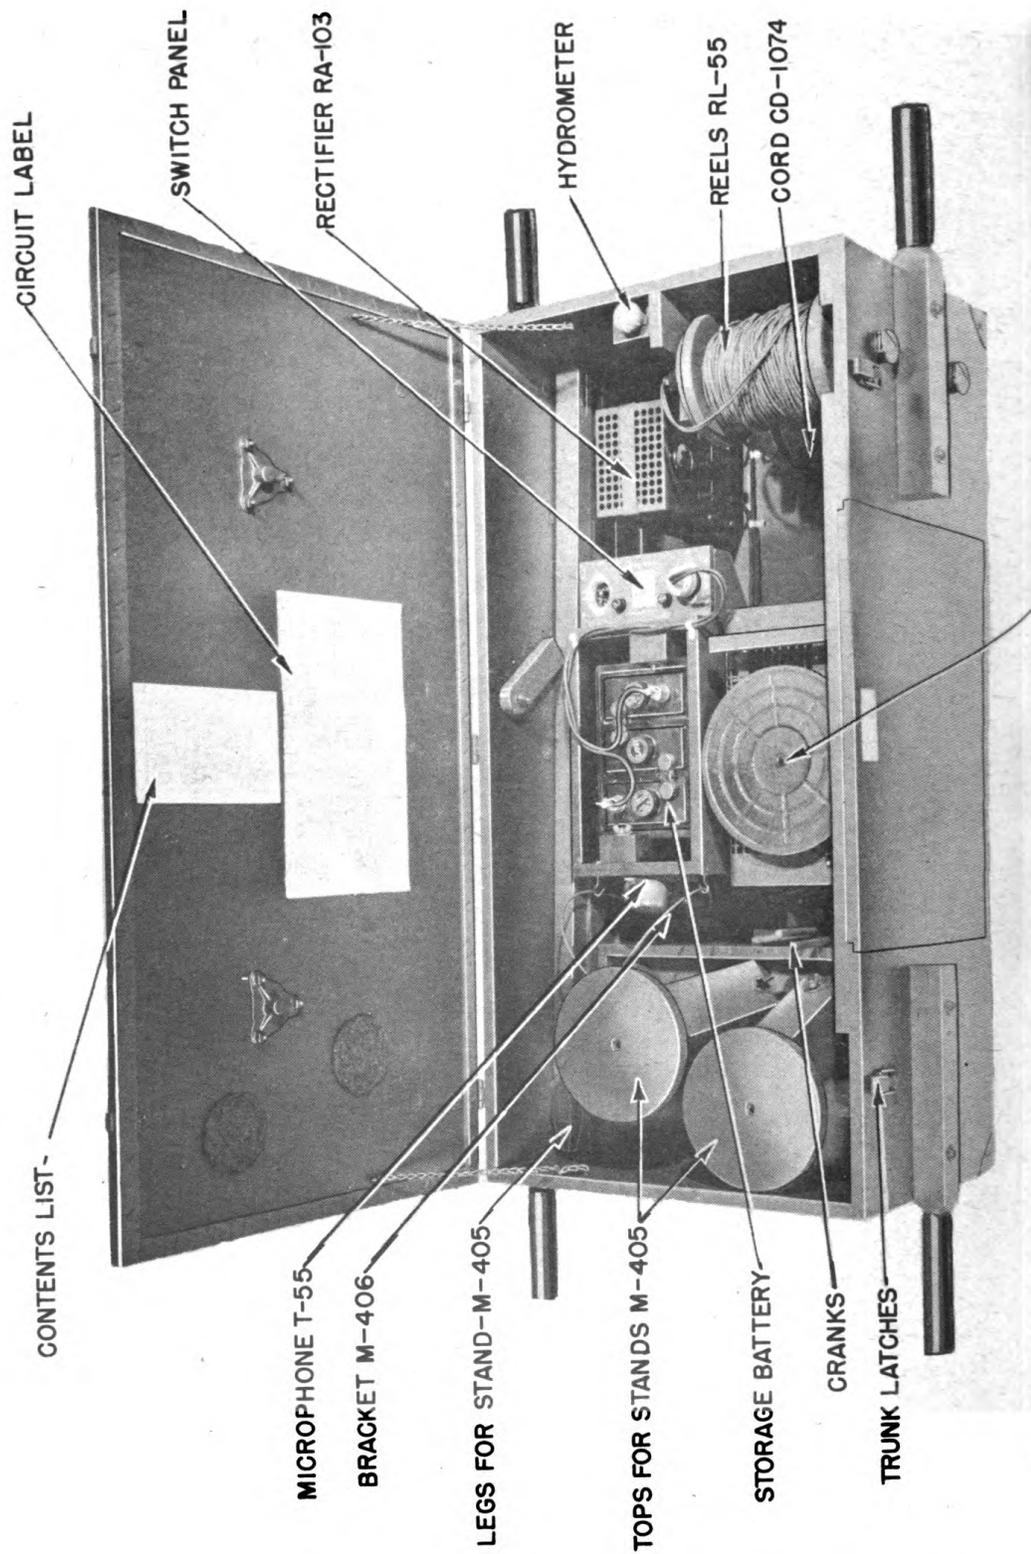

Figure 1. Amplifier and accessory chest CH-229
Chest CH-229, (fig. 1), is constructed of five-ply plywood, painted olive drab and is equipped with a hinged lid fastened by 2 trunk type latches. A removable door in the front panel of the chest, secured by sash fasteners, provides easy access to Amplifier and Record Player BC-1292, and permits operation of the system with the chest lid closed. A neoprene weatherproof gasket is fastened to the bottom of the lid, but it will not protect the contents of the chest in case of total immersion. Two litter handles are attached to each side for carrying. Felt pads are attached on the bottom of the lid and on the left side of battery compartment to protect contents from mechanical injury. Provision is made for mounting and clamping Loudspeakers LS-12-(*) on the top of the chest. Chest CH-229 houses all components of the Public Address Sets PA-5-(*) with the exception of the loudspeakers and spare battery.
6. STORAGE BATTERY (See figure 1).